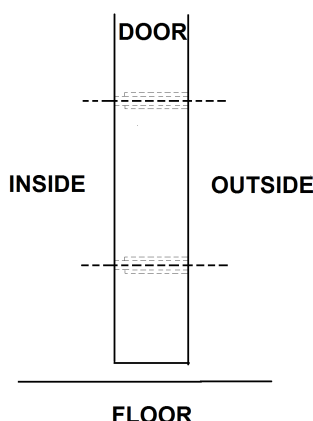

FIG. 3
Step 3. Attach Door Plate as shown, (FIG. 3) with included hardware.